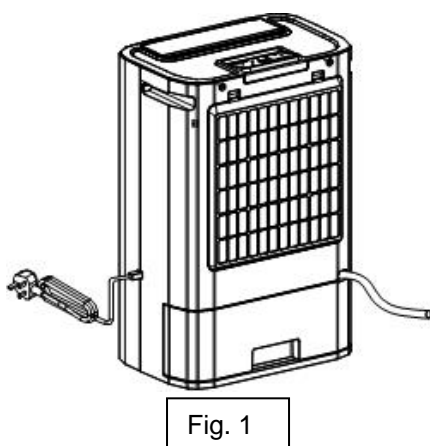

Fig. 1
3.5. Now push the water tank back into its normal position. Make sure that the hose is routed through the small opening provided for it on the right above the condensation tank and that everything is properly seated and that no water can leak out at the connections (see fig. 1).